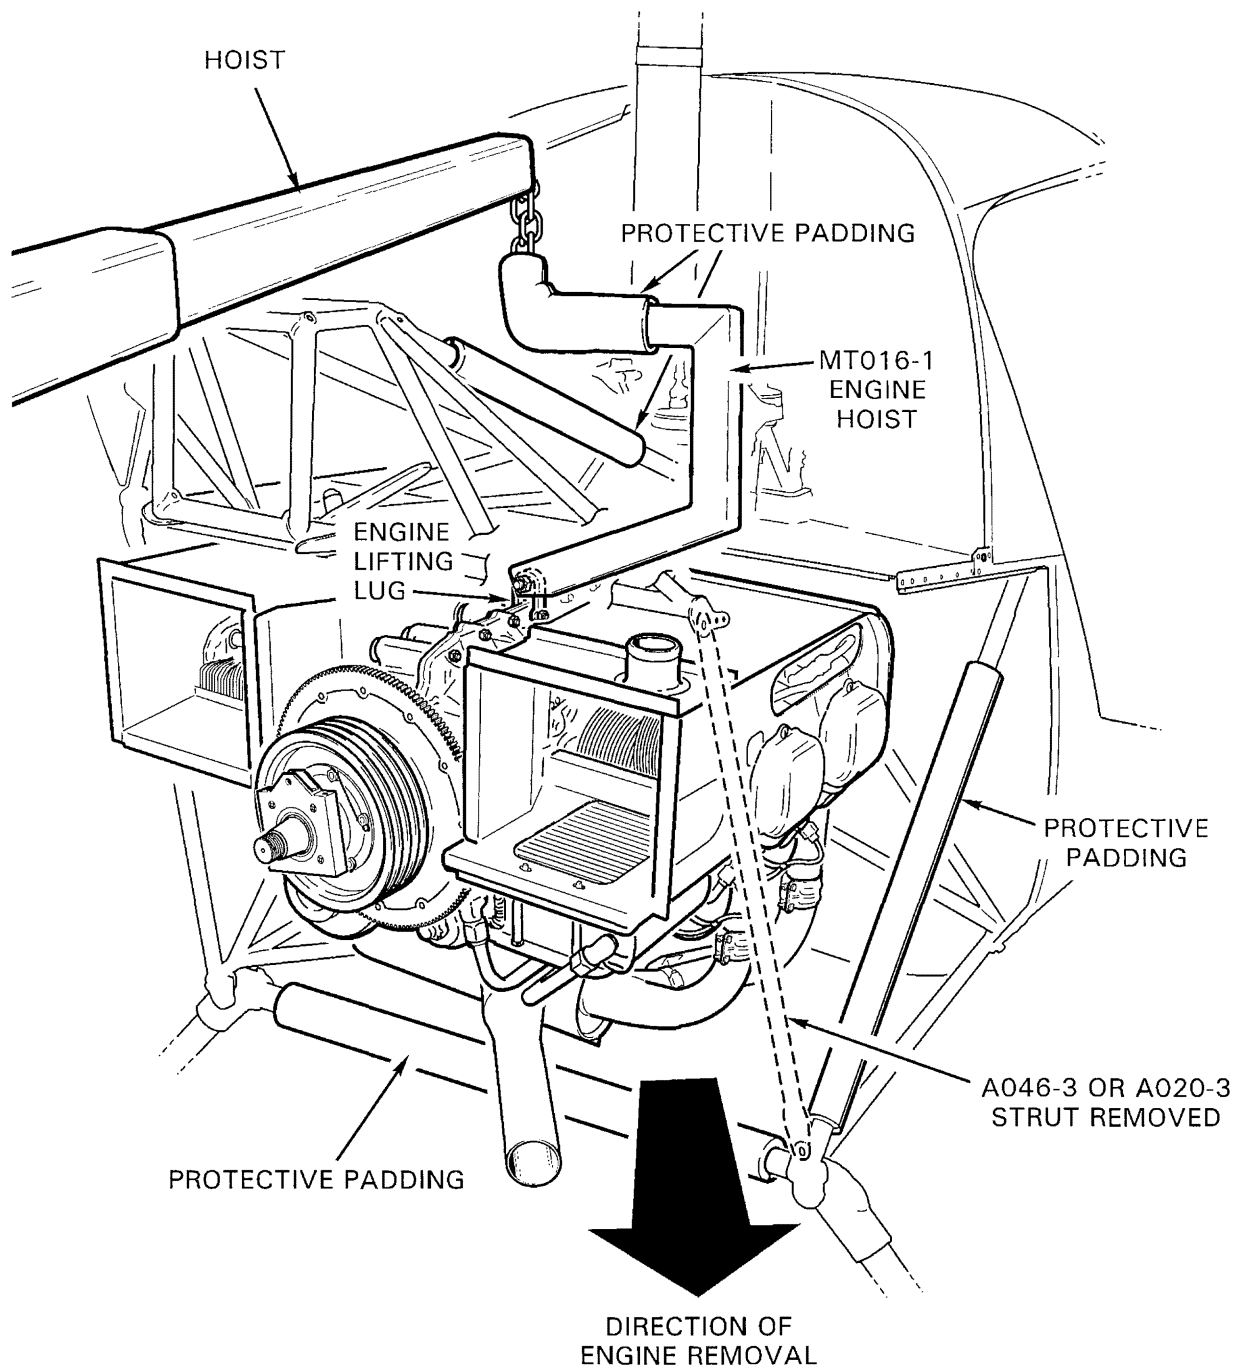

FIGURE 6-1 POWERPLANT REMOVAL
11. Install protective padding per Figure 6-1.
12. Connect MT016-1 "C" fitting to a minimum 500-pound capacity hoist and to engine lifting lug per Figure 6-1. Take up any slack in chain or cable of hoist. Engine mounting pads have shims placed between pads and engine mounts for proper engine alignment. Note shim stack for each mount and record for reinstallation.
15. Remove tubular steel strut at right rear corner of steel tube structure. With a person on each side of engine, carefully remove engine. Vary height of engine as required to clear aft cross tube during removal. Swing engine clear of helicopter. Refer to Figure 6-1.
- a) Connect MT016-1 "C" fitting to a minimum 500-pound capacity hoist and to engine lifting lug per Figure 6-1. Carefully hoist engine and swing it into alignment with engine mounting pads.